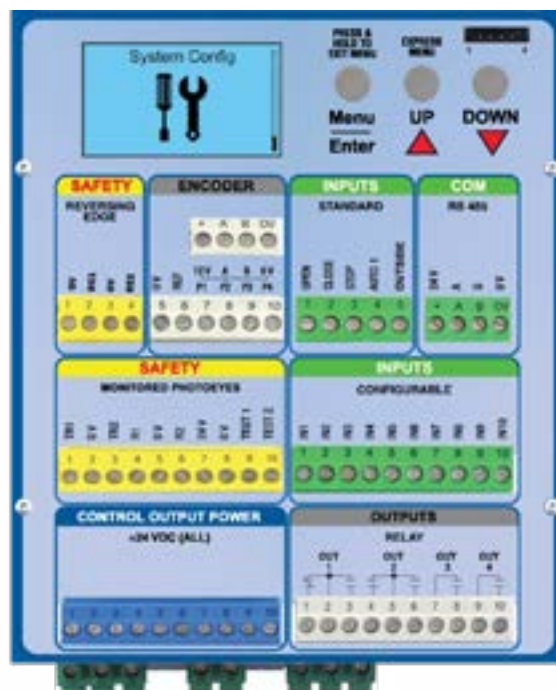

Figure 28: Controller Detail
- 1 On the controller, press “menu” (Figure 28)